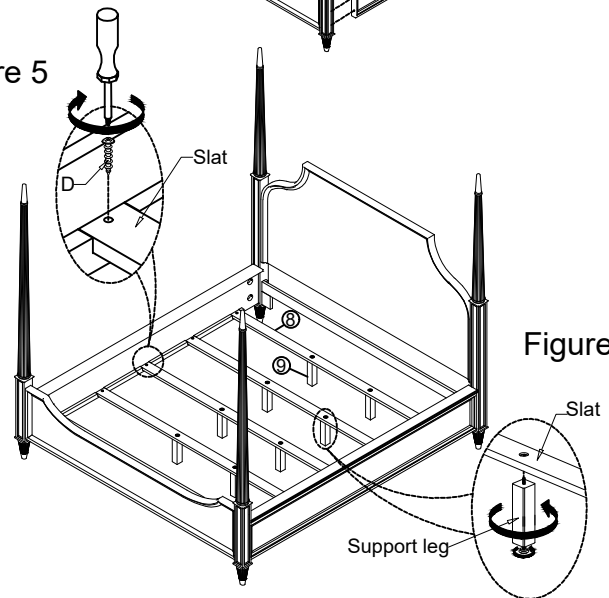

Figure 4
6. Insert Bolt on each Support Leg into pre-drilled holes in center of Slat, tighten by turning the Support Legs in clockwise. (See Figure 4).